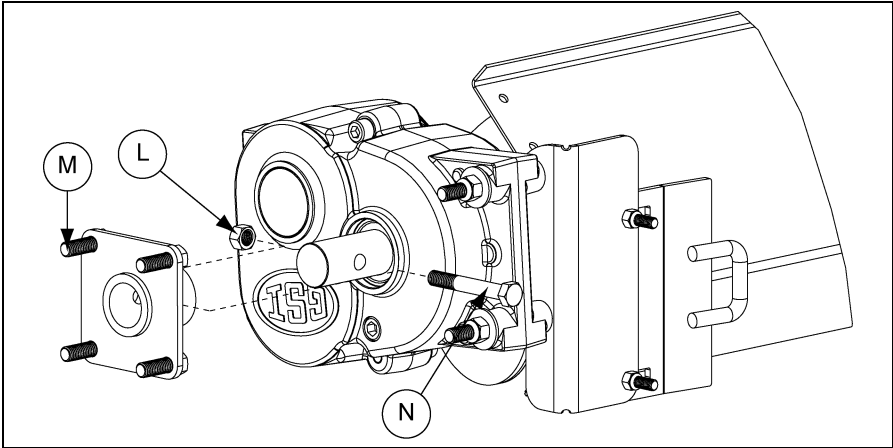

Figure 4AV
- 4. Attach the sweep wheel hub to the gear driven reduction drive with one 1/2" x 3-1/2" grade 8 bolt (N) and stover nut (L).
- 5. Bolt the segmented rubber wheel (O) to the sweep wheel hub (M) with four (4) 1/2" nylock nuts.
- 6. Make final adjustments to the back shields and mounting brackets and tighten all hardware. Remember to leave the pivot bolt at the gearbox loose enough to pivot. (See Figure 4AV.)